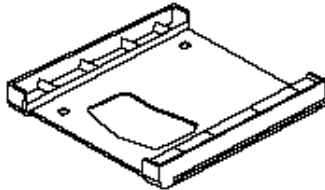

Figure 1-4 Bay Adapter for Multi-function Bay 2
- Bay Adapter for Multi-function Bay 2 (located in the Accessories box). (Figure 1-4.)